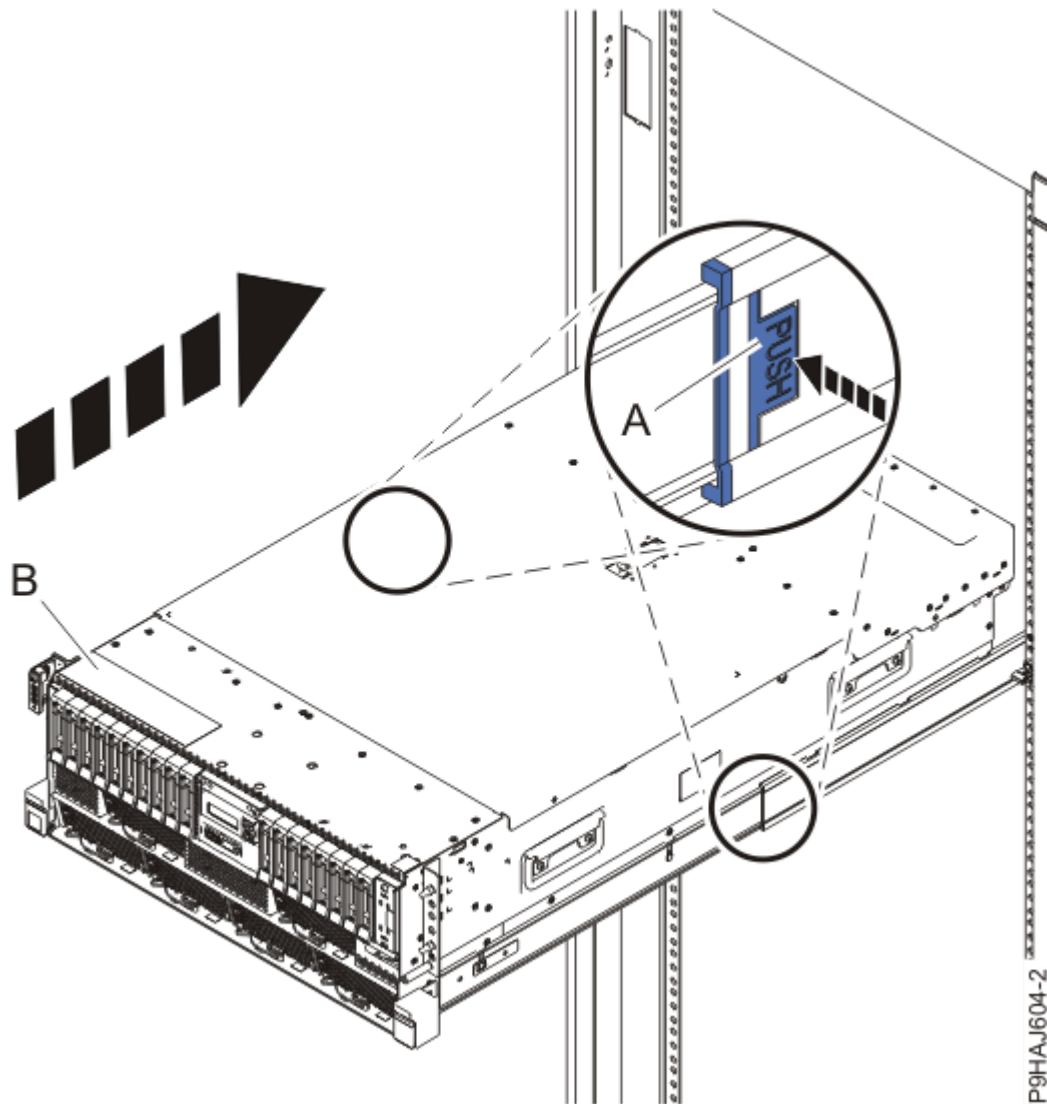

Figure 42. Placing the system into the operating position
3. For a rack-mounted system, unlock the blue rail safety latches (**A**) as shown in Figure 42 on page 48 by pushing them inward.